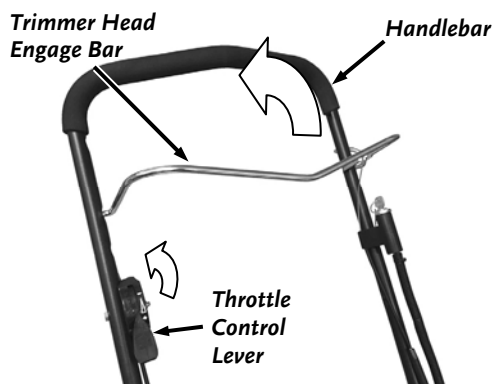
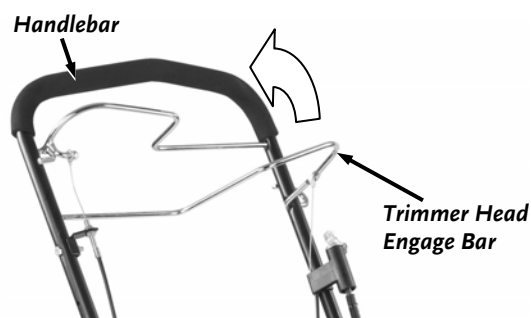

Figure 14
Figure 15
1. Move the Throttle Control Lever (**Figure 14**) all the way back past the Idle  position.
1. Bring the Trimmer Head Engage Bar toward you and grip it together with the Handlebar (non self propel **Figure 14**) (Self Propel **Figure 15**). Keep holding the Bar to the Handlebar. The Cutting Cords will rotate and will continue to rotate until you release the Bar.